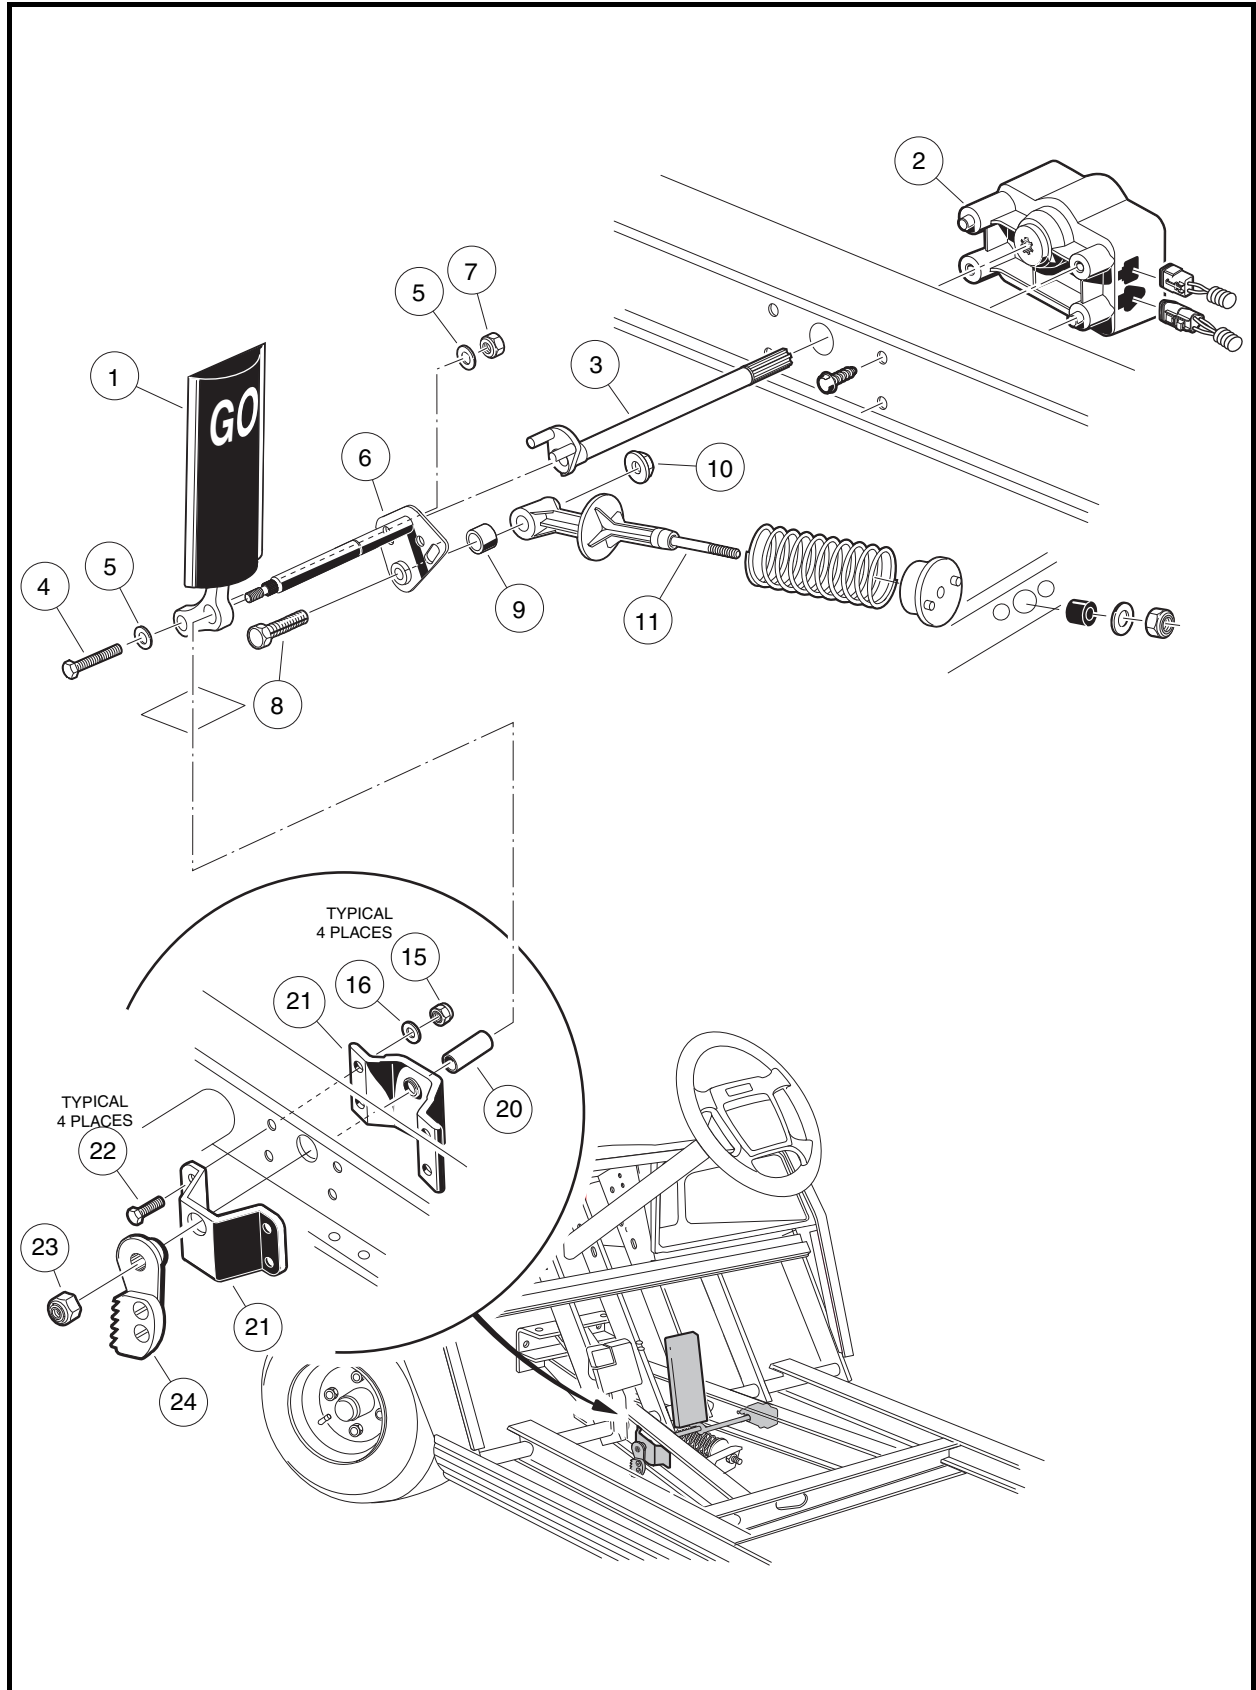

Figure 5-8 Accelerator Pedal – Electric Vehicle
3. Remove the MCOR (2) and drive bar (3) as instructed (**Figure 5-8, Page 5-10**). **See MCOR Removal, Section 12, in the appropriate maintenance and service supplement.**
4. Using a 9/16-inch socket and 9/16-inch wrench, remove the nut (7), two washers (5), and bolt (4) securing the accelerator pedal (1) to the pivot rod (6) (**Figure 5-8, Page 5-10**).
5. Remove the nut (10) and bolt (8) from the accelerator pivot rod assembly (6).
6. Slide the spring retainer (11) off of the accelerator pivot rod.
7. Inspect the pivot support bearing (9) for wear and replace if necessary.
8. Use a marker to mark the position of the park brake ratchet (24) on the accelerator pivot rod (6). **See following NOTE.**
9. Remove the lock nut (23) from the accelerator pivot rod.
10. Press the brake pedal slightly and slide the park brake ratchet (24) toward the end of the accelerator pivot rod. Rotate the ratchet and remove it from the pivot rod.
11. Remove the pivot rod (6) and spacer (20) from the accelerator pivot rod supports (21) (**Figure 5-8, Page 5-10**).
12. Inspect the accelerator pivot rod supports (21) for wear and damage and replace as necessary. If the pivot rod supports do not require replacement, loosen, but do not remove, the four bolts (22) and lock nuts (15) to make installation of the pivot rod easier.
13. Remove the accelerator pedal (1) from the vehicle (**Figure 5-8, Page 5-10**).
1. If the accelerator pivot rod supports were replaced, position the supports (21) on the vehicle frame and install the four bolts (22), flat washers (16), and lock nuts (15) (**Figure 5-8, Page 5-10**). Finger-tighten nuts at this time.
2. Insert the lower end of the accelerator pedal (1) through the floorboard and install the accelerator pivot rod (6) through the uppermost hole in the pedal.
3. Install plastic spacer (20) on pivot rod (6).
4. Insert the pivot rod through the pivot rod supports (21) on the vehicle frame.
5. Tighten the four bolts (22) attaching the pivot rod supports to the frame to 75 in-lb (8.5 N·m) (**Figure 5-8, Page 5-10**).
6. Insert the bolt (4), two washers (5), and a new lock nut (7) through the lower hole in the pedal and through the pivot rod. Finger-tighten lock nut at this time.
7. Install the bolt (8) through the pivot rod (6) and spring retainer (11). Secure these parts with the nut (10) (**Figure 5-8, Page 5-10**). Tighten the nut to 75 in-lb (8.5 N·m).
11. Install lock nut (23) on pivot rod (**Figure 5-8, Page 5-10**). Tighten to 18 ft-lb (24.5 N·m).
12. Install the MCOR (2) and drive bar (3) as instructed. **See MCOR Removal, Section 12, in the appropriate Maintenance and Service Supplement.**